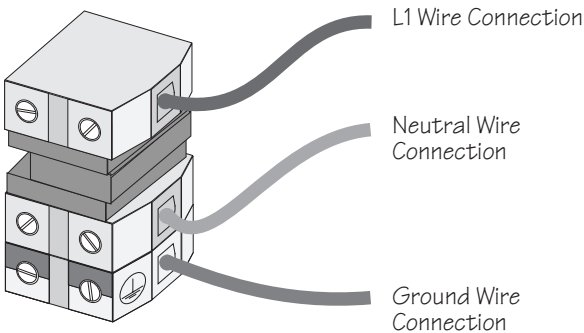

Fig. 4-7 Output Hardwiring Connections
3. Connect output wiring to the output terminal connections as shown in figure 4-7. Make sure there are no loose strands and that the terminal connection screws are sufficiently tightened.